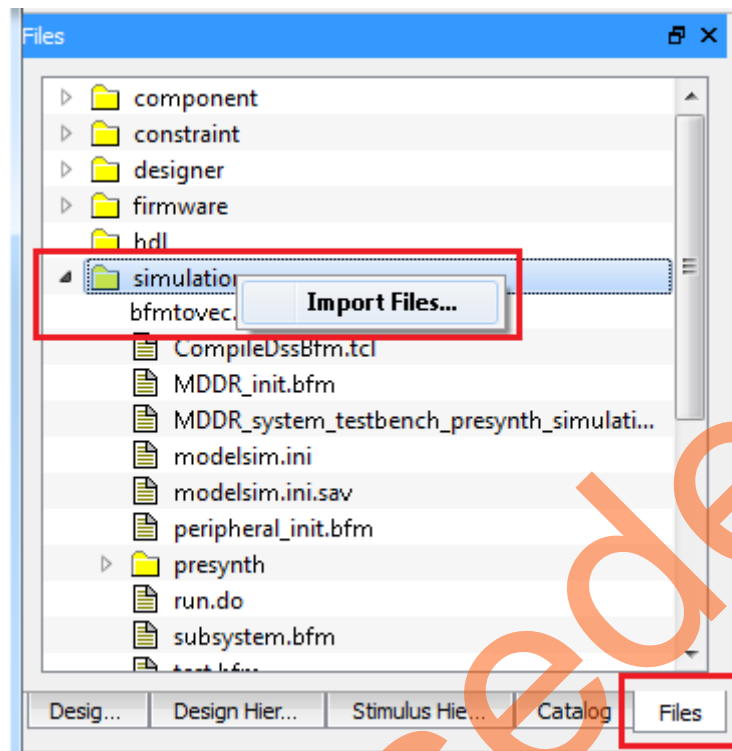

Figure 30.Importing bfm Source File
- Go to Files tab and right-click on the simulation Folder as shown in Figure 30.